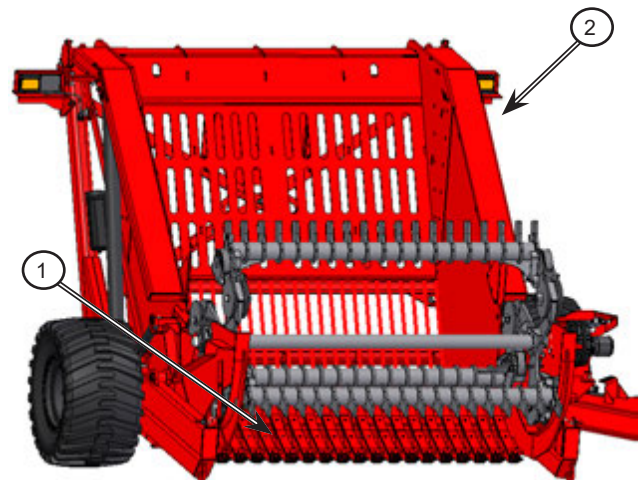

Figure 4.13: Check the condition of the apron and the bucket
1. Check the condition of the apron (1) and the rock bucket (2); see Figure 4.13.